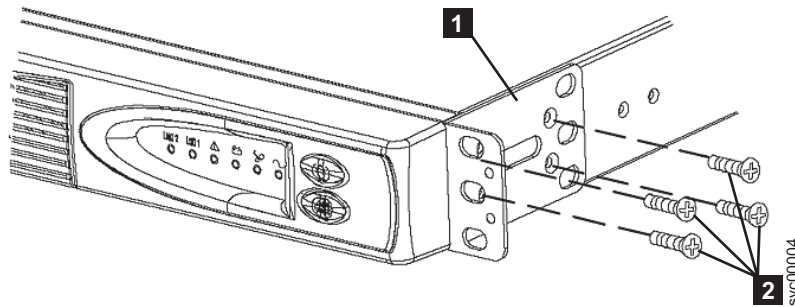

Figure 19. Attaching the mounting bracket to the 2145 UPS-1U
3. On each side of the 2145 UPS-1U, attach the long end of a mounting bracket **1** to the 2145 UPS-1U using four of the supplied M3 × 6 screws **2**. See Figure 19 on page 48.